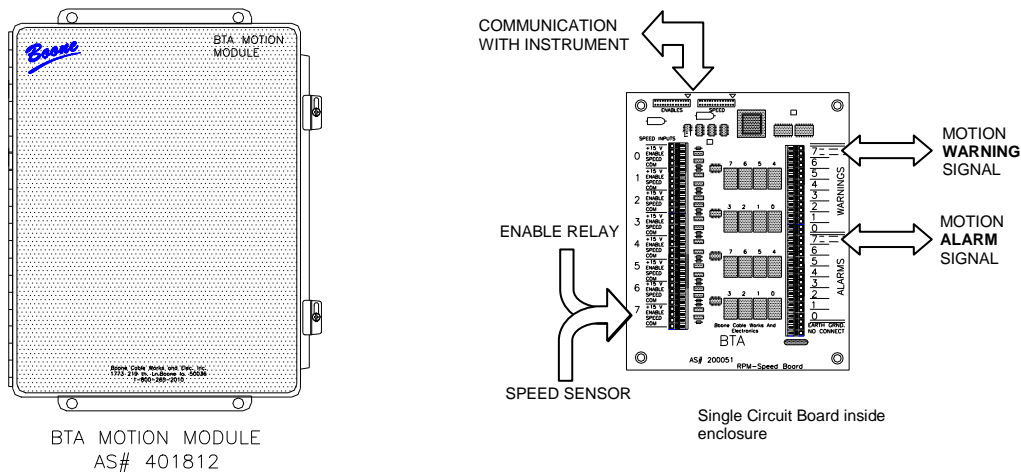

Figure 26. Motion Module & Rpm-Speed Board
7.2. MOTION MODULE (401812) This module is an add-on enclosure separate from the main BTA Instrument. Signals from 8 or fewer Speed Sensors are input to the Signals are conditioned before being passed to the BTA Instrument. Speed is then determined and any slow-down from normal speed is monitored. Unlike the BTA Instrument, the Motion Module continuously monitors the speed signals. Slow-downs will be detected instantly. A *WARNING* is displayed if a slowdown occurs below 90% of normal speed (or traditionally -10%). An *ALARM* is displayed if a slowdown occurs below 80% of normal speed (or traditionally -20%). These settings are adjustable. External signal devices can be activated for each piece of conveying equipment that is monitored. See figures 26 & 27.